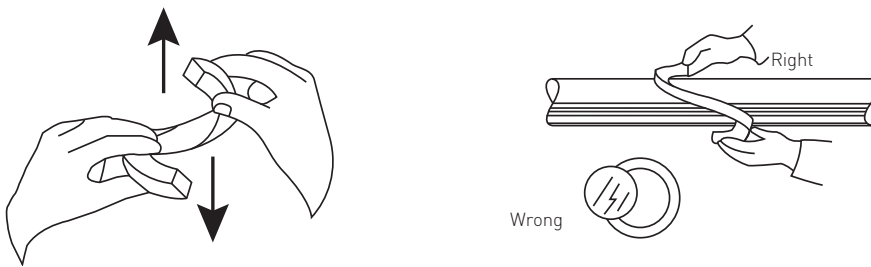

FIGURE 7B
4. If the split form is used and it is not possible to slip the rings over the stem without opening the rings, install the rings over the stem by twisting open in an 'S' fashion. Never open rings with hinge-like action. See Fig. 7b.